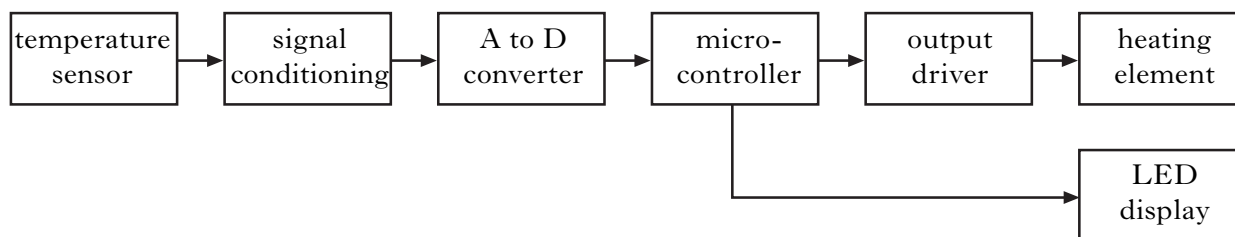

Figure Q10(b)
- (a) With reference to Figure Q10(b), explain the function of the two sub-systems listed below: